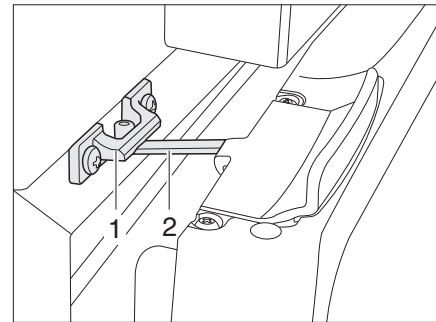

Fig. 143 Refrigerator door in ventilation position (Thetford)
- Open the lock (Fig. 143,2) and snap it into the locking catch (Fig. 143,1). The refrigerator door will then stay slightly open.